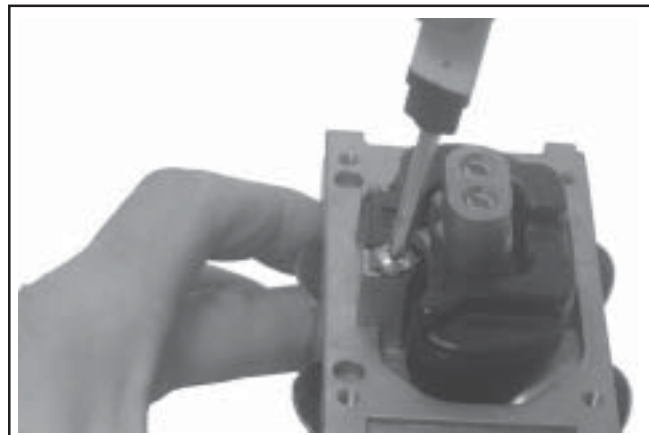

Figure 5-57. Installing Float Assembly.
13. Install the float and inlet needle down into the seat and carburetor body. Install the new pivot pinthrough the float hinge and secure with the new retaining screw. See Figure 5-57.